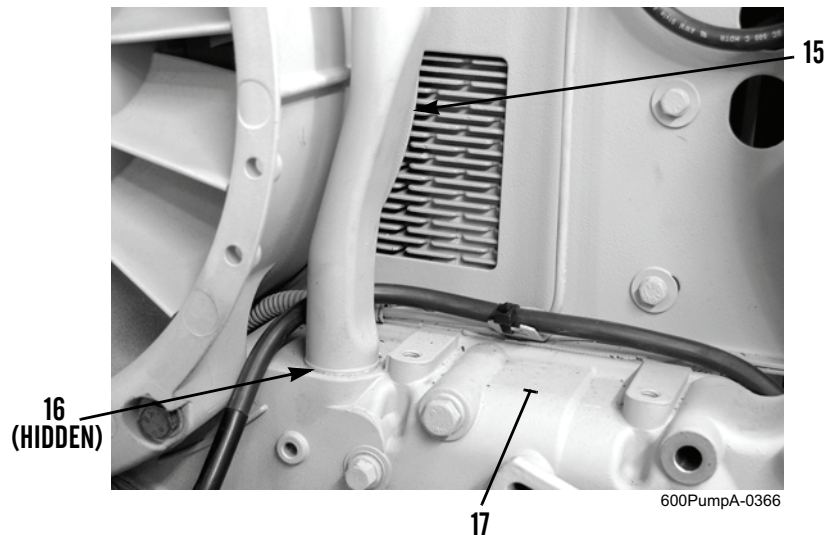

Figure 2. Breather Pipe at Engine Front Cover.
5. Remove breather pipe (Figure 2, Item 15) from engine front cover (Figure 2, Item 17).